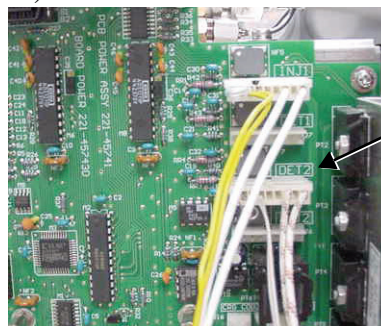

Figure 4.15. Routing the heater cable
2. Plug the heater cable into the connection labeled **DET2** for the back detector position (see Figure 4.15).